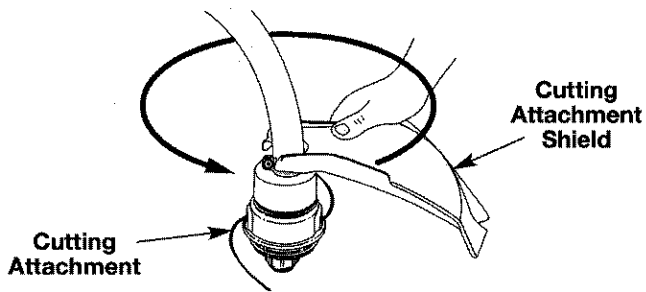

Fig. 5
2. Push the cutting attachment shield down to the top of the cutting attachment assembly and then rotate the cutting attachment shield until the screw holes align and the guard fits into the recessed pocket (Fig. 5).